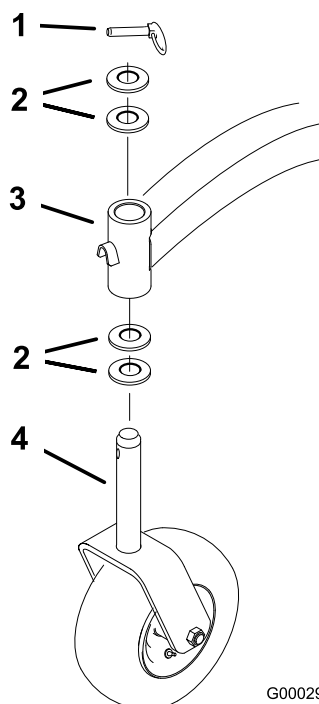

Figure 44
2. Remove the locking pin and spacer(s) from the top of the caster wheel fork (Figure 44).
6. Inspect the caster wheel fork for wear and replace if necessary (Figure 44).
7. Slide the caster wheel fork through the bushings in the mounting tube. Replace the spacer(s) onto the fork and secure with the retaining ring (Figure 44).